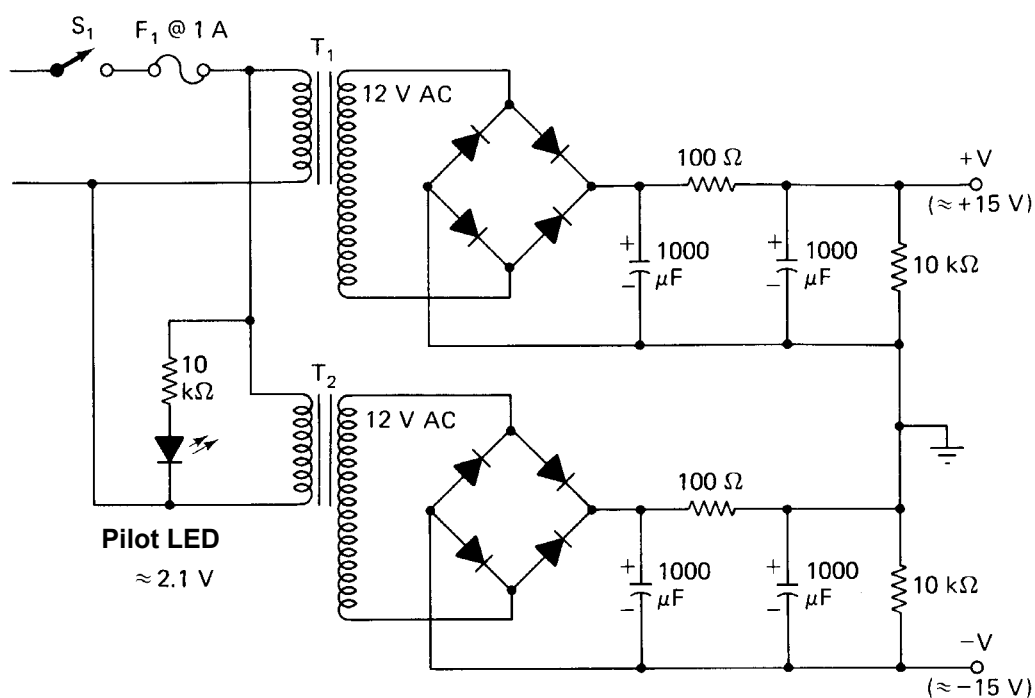

FIGURE 7.1 – The split-power supply used with operational amplifiers
- 7.1 Operational amplifiers often rely on split-power supplies for its operation. Split-power supplies have both a positive and a negative supply. FIGURE 7.1 shows an example of such a split-power supply.